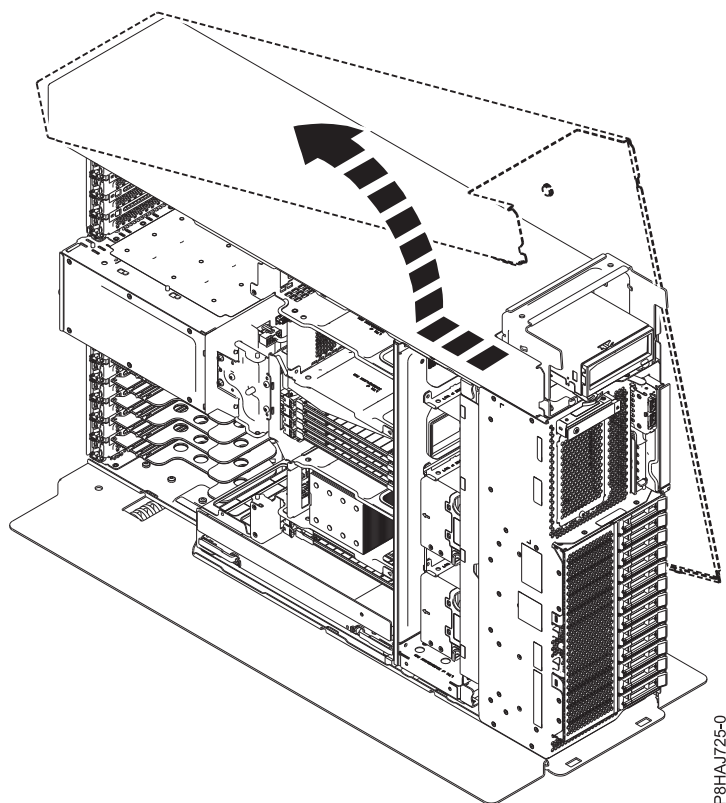

Figure 14. Removing the 8286-41A side cover
5. Slide the side cover off of the system in the direction that is shown in Figure 14 on page 32.